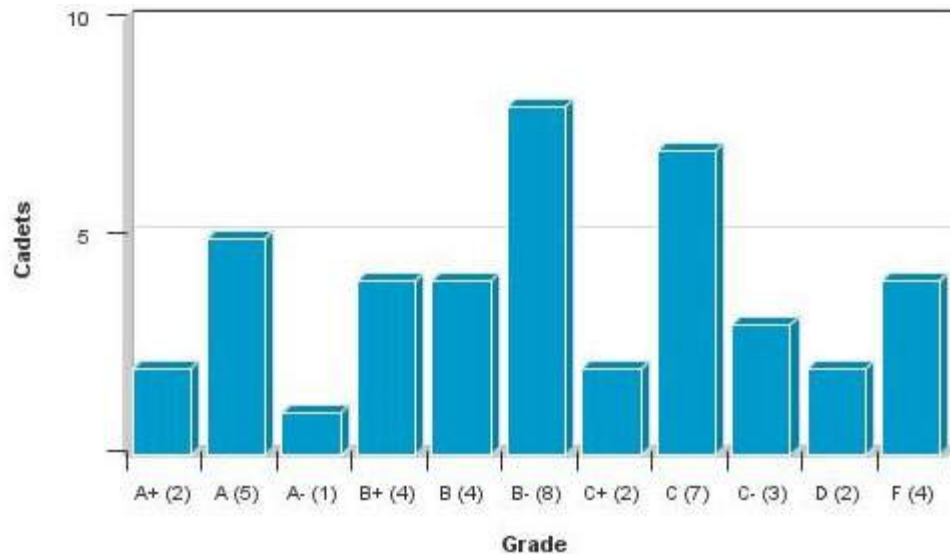

Figure 1. AT23-2 EM481 WPR1 Histogram of Grades
4. **WPR Additional Statistics.** Additional descriptive statistics and the histogram of grades for WPR1 are depicted in Table 3 and Figure 1, respectively.